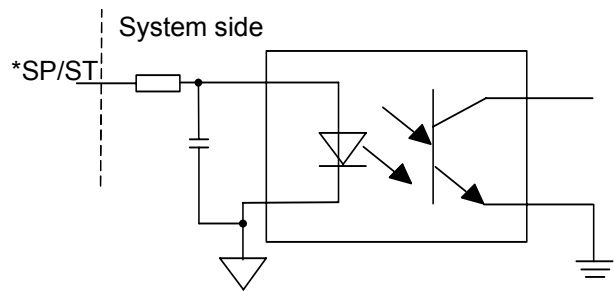

Fig.4-11-1
*SP/ST signal internal circuit is referred to the following Fig. 4-11-1: